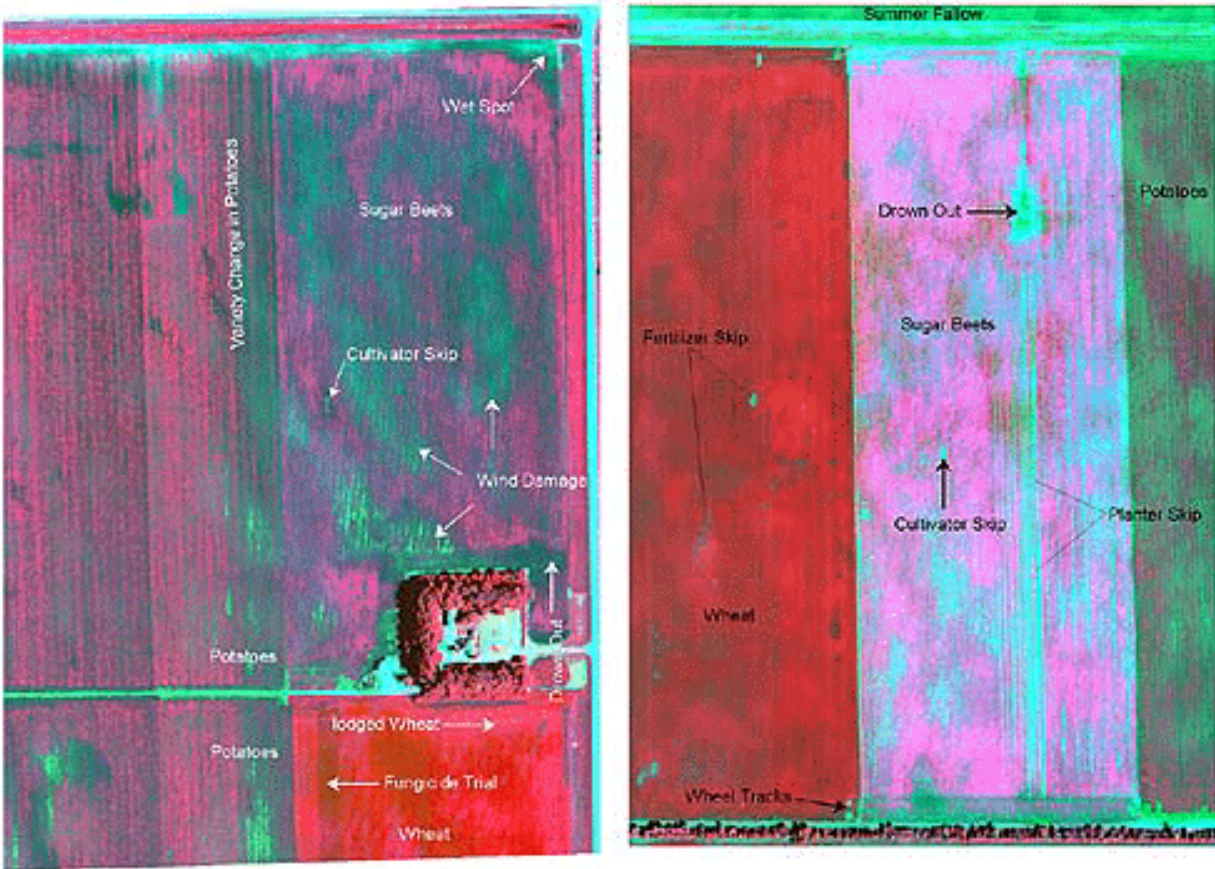

Figure 10: Remote sensing of North Dakota
buy a satellite image of your plot so you can look at a precision agriculture image of the plot to determine any needed changes. You buy Figure 10.
Figure 10 is a picture taken on July 11, 1999. The area was flown over twice using the Positive Systems' ADAR 5500 camera, which collects half-meter resolution digital data in four multispectral bands. The spectral channels used to generate these color composites are green, red, and infrared. In this case, crops with fully developed canopy appear red. Sugar beets, still in their early stages, are pink, and the recently planted crops where the background soil reflectance dominates, appear green.
14. What information can you get from remote sensing, and how would this information help you if you were a farmer? Examine the satellite image in Figure 10. What changes would you make on your plot of land and why?